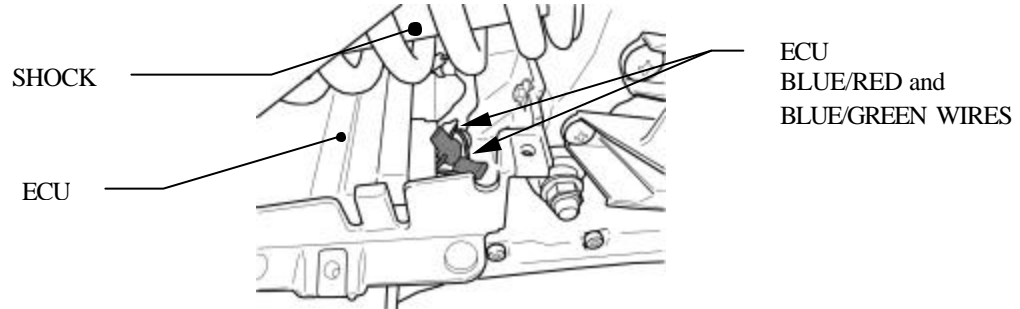

FIGURE 2
8. Locate the Blue w/Red stripe and Blue w/Green stripe injector wires at the ECU plug (the Blue w/Green wire is located next to the Blue w/Red wire in the top row at position number 3, **do not use** the Blue w/Green wire located at position number 4) and attach a t-tap connector to each wire (See figure 2 & 3). Make sure not to attach the t-tap connectors closer than 1" to the stock ECU connector. Feed the Fi2000 Blue/RED and Blue/Green wires from the left side of the motorcycle in front of the fuse panel, into the battery storage area and thru to the t-tap connectors. Attach the Fi2000 wires to the corresponding colored ECU wire taps.